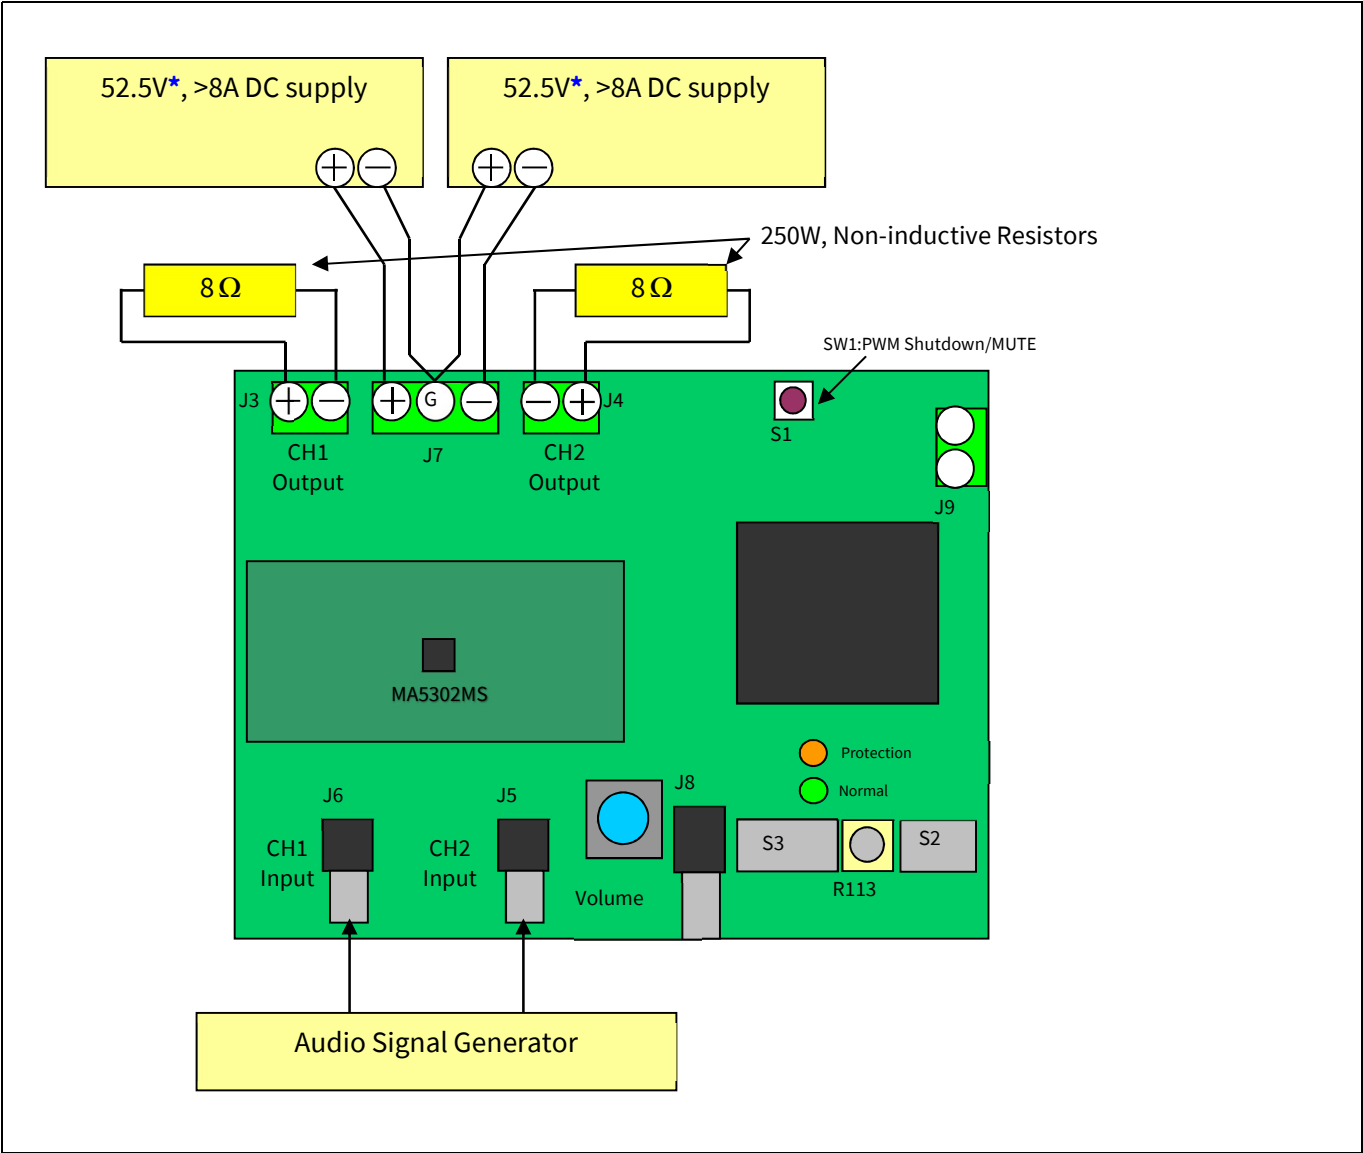
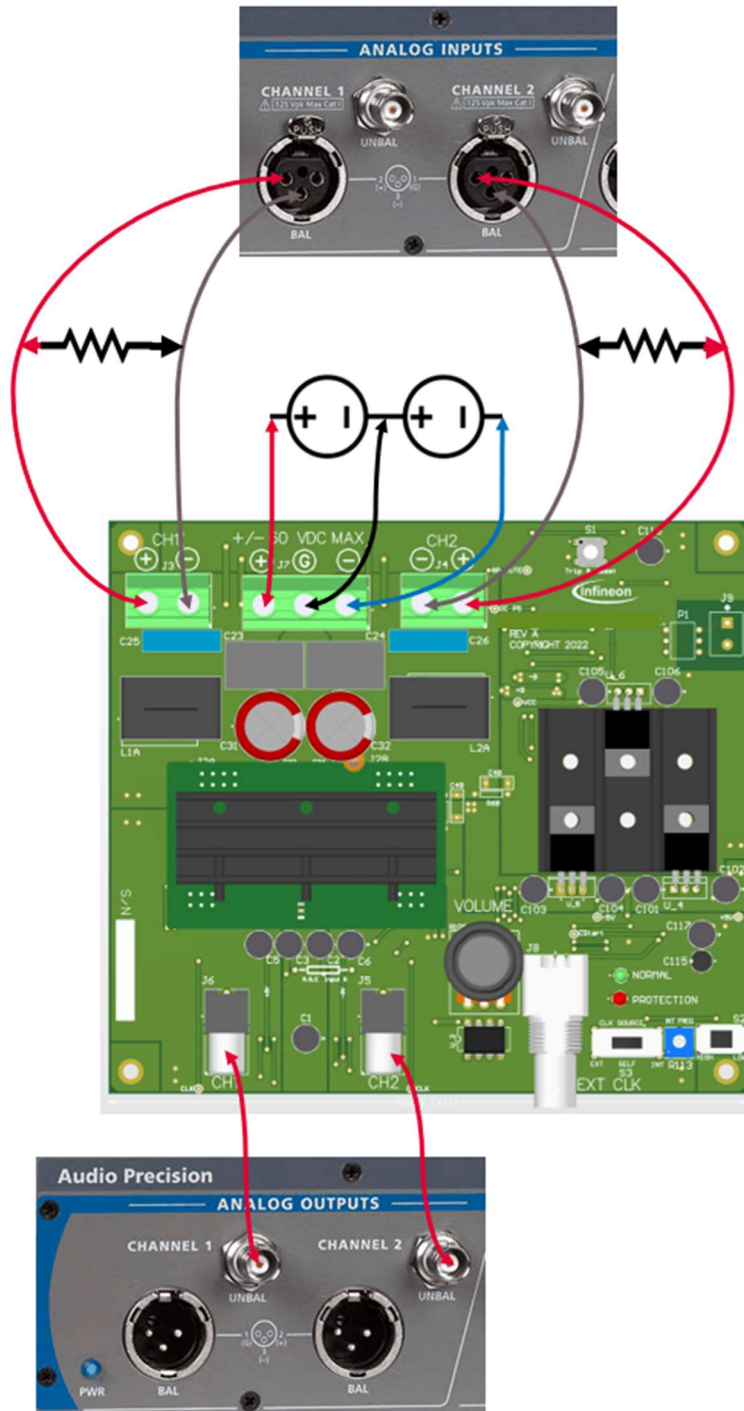

Figure 2 Typical connection connector description
Figure 3 **Audio analyzer connection**
1. Connect 8 Ω 250 W dummy loads to output connectors (J3 and J4 as shown in Figure 2) and parallel it with the input of the Audio Precision (AP) analyzer.
2. Connect the Audio Signal Generator (ASG) to J6 and J5 for CH1 and CH2 respectively (AP).
7. Connect the dual power supply to J7, as shown in Figure 2 or Figure 3